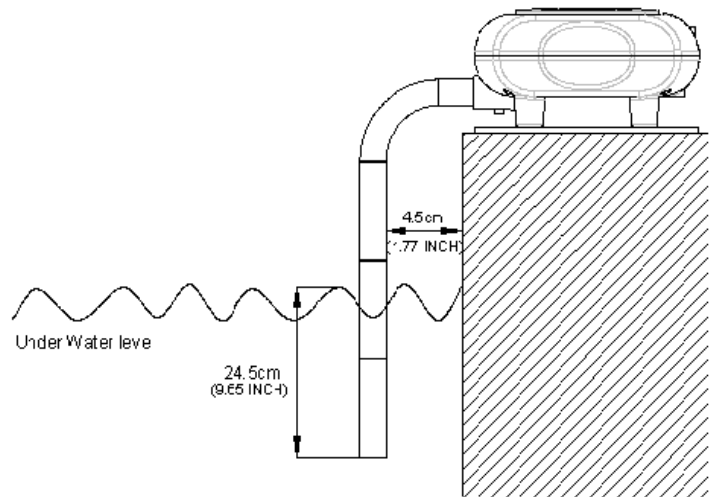

Fig.4
3. The base unit must be placed so that the tube is approximately 1 3/4" (4.5cm) from the pool wall. (Fig. 4)
To permanently install the unit on flat coping use the attached flat mounting plate. Make sure the unit is positioned as shown in (Fig.4) below. Using a marker – mark the deck through the 4 mounting slots located on the sides of the mounting plate. Drill four 1/4" holes through the marks. Install the plastic wall plug in the holes